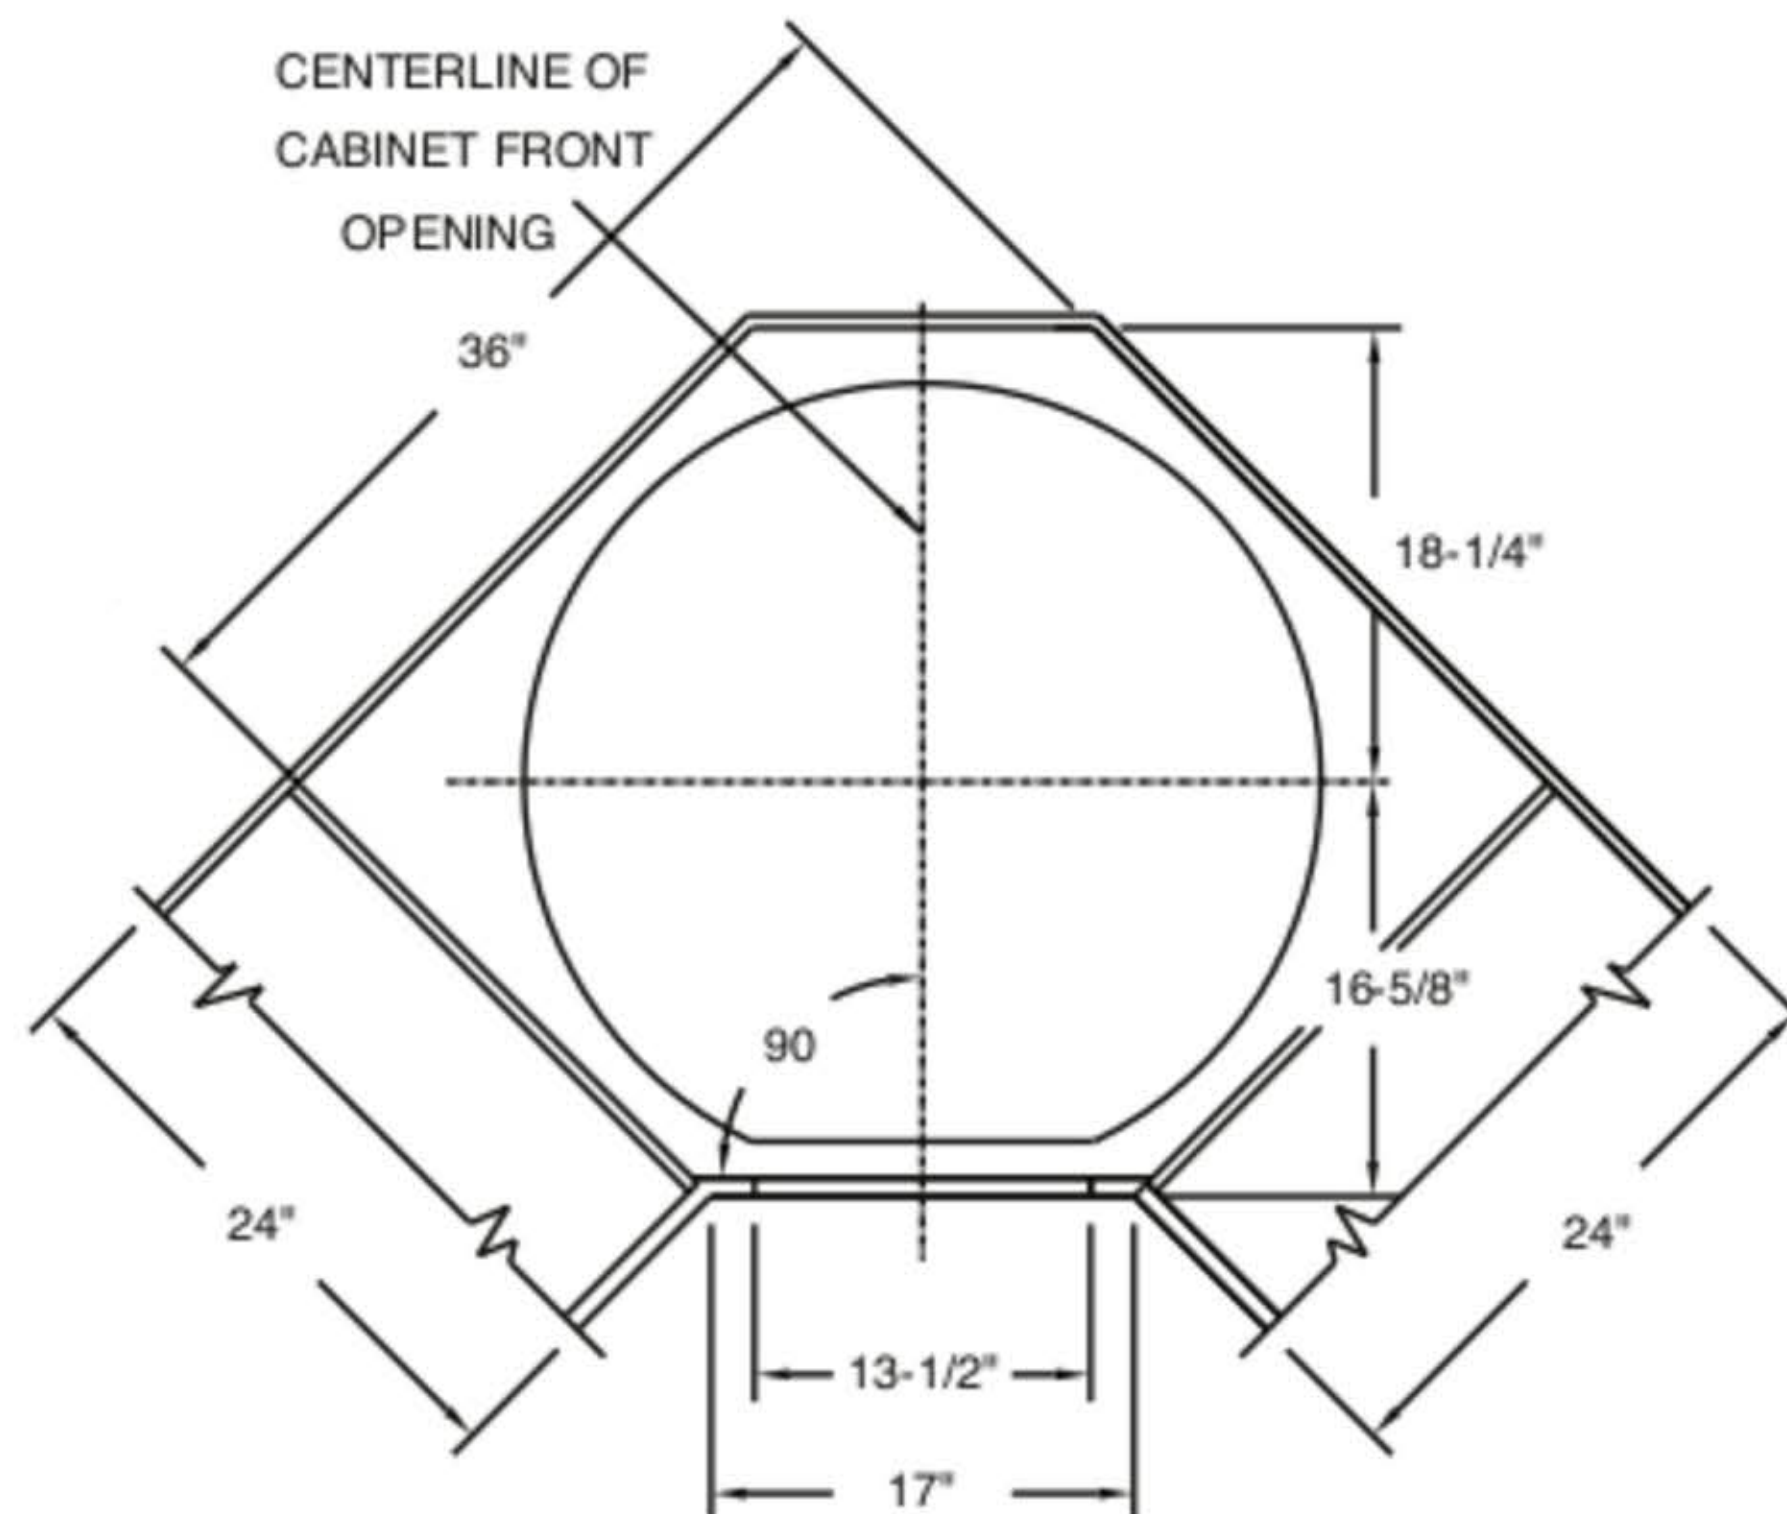
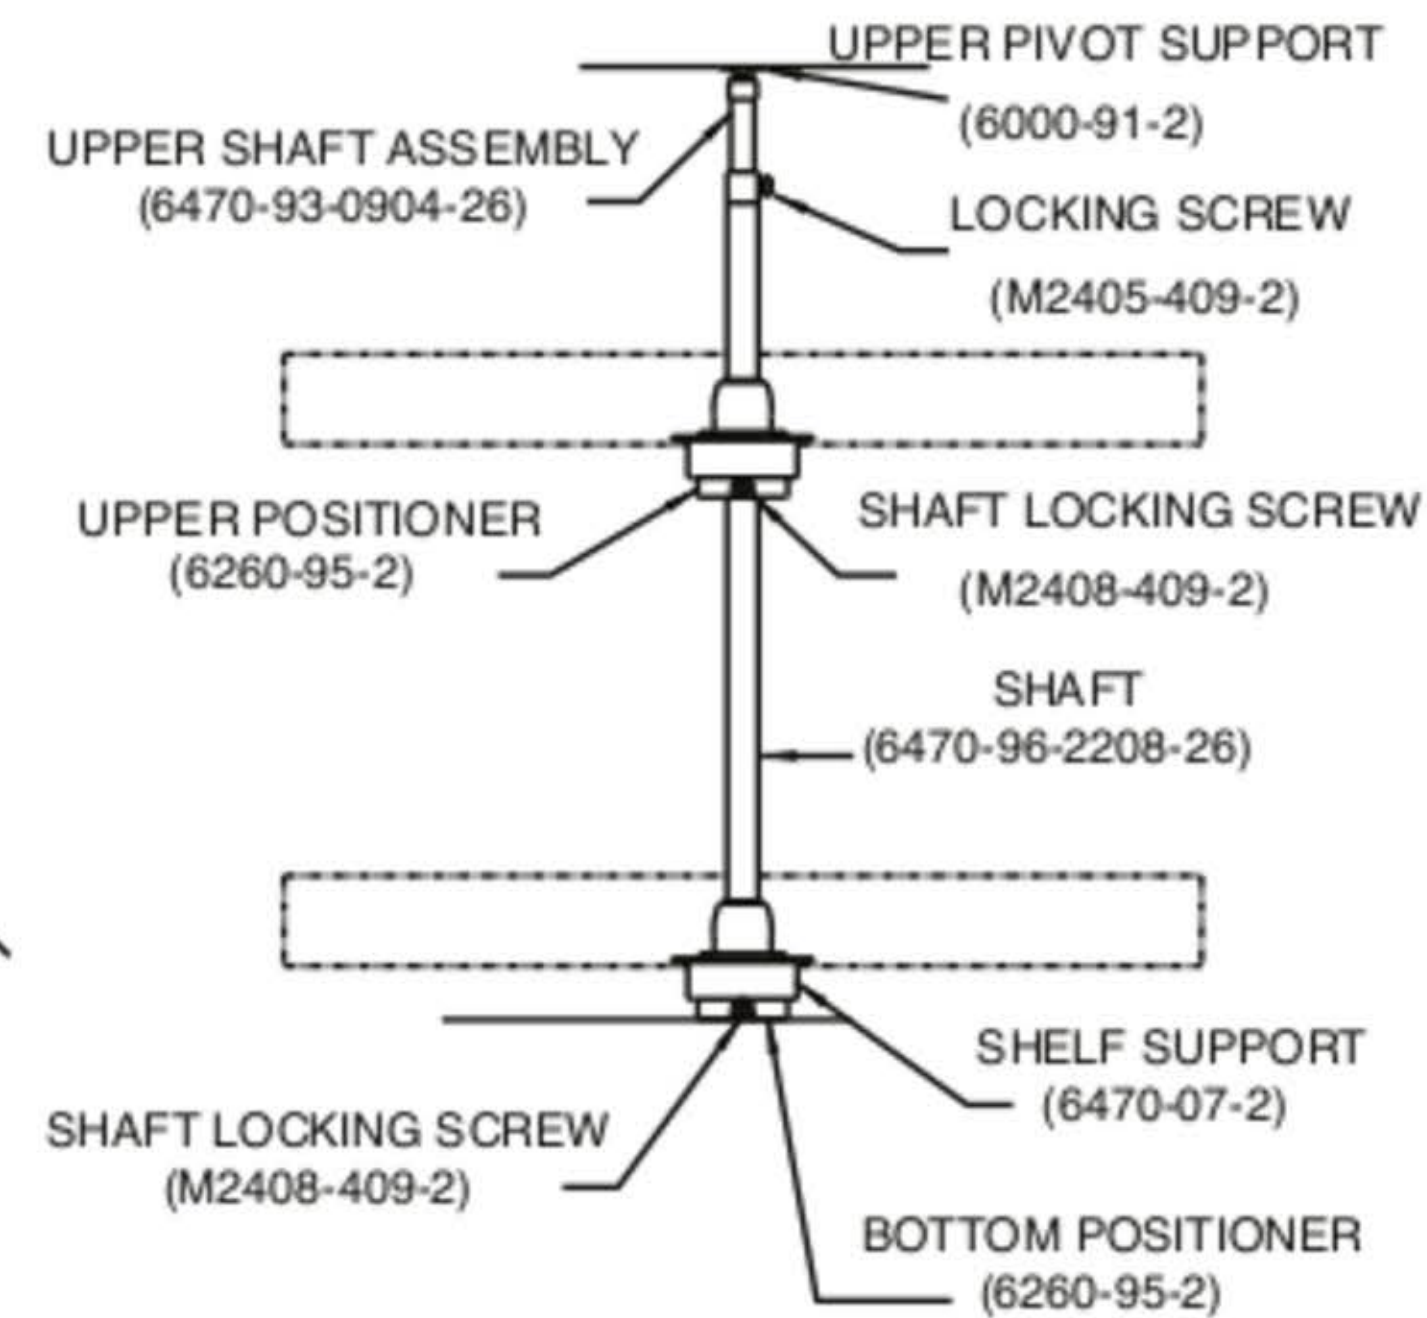

FIGURE 1
FIGURE 2
1. The dimensions shown in Figure 1. are minimum. Shelves must be installed from back or top of cabinet.
2. Square from the front edge of the cabinet and pencil a centerline from front to back. Measure from the front 16-5/8" and mark the center of the tray assembly. Use a square to extend lines out from the center about 6" each direction. See Figure 1.
3. Place the bottom positioner (P/N 6260-95-2) over the centerlines with the locking screw facing to the front and mark the holes. Use a 1/8" max. drill to make pilot holes for (4) 3/4 x #8 oval hd. screws (P/N F1208-13-2). Install the positioner.
4. Repeat Steps (2) and (3) for the top support (P/N 6000-91-2). It may be necessary to install a board, front to back, for this purpose.
6. Insert the upper shaft assembly into the top end of the shaft. Loosely install the lock screw. Insert the shaft/tray assembly into the bottom positioner. Extend the upper shaft assembly to engage the upper pivot support (See Figure 2).